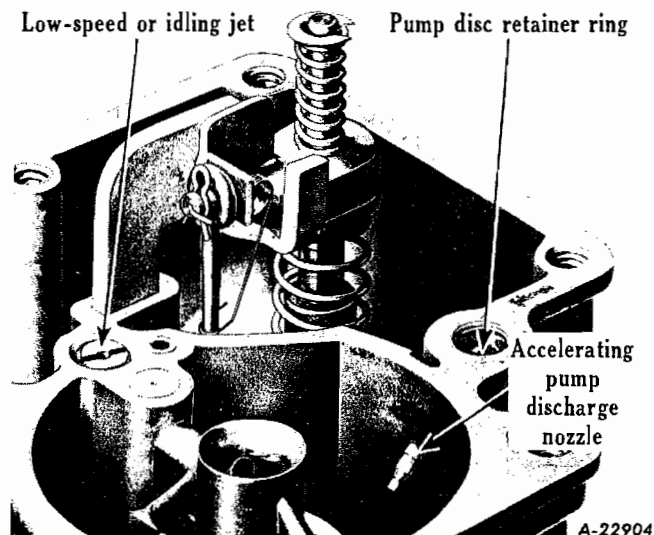

Fig. 2
A chamber above the top of the diaphragm supplies fuel for the accelerating pump circuit. The diaphragm acts as a pump and the quantity of fuel discharged by the pump is controlled by the size of the pump jet or nozzle calibration (Fig. 2) and also the size of the fuel inlet hole to the chamber. There is no check valve on the inlet. There is a check valve in the outlet channel near the pump jet to allow fuel to pass in an outward direction only and also to prevent air from being sucked back into the chamber under certain conditions. The pump jet is free to flow at all times generally starting at a part-throttle engine speed of 1500 r.p.m. and continuing throughout wide-open-throttle.
4. Remove pump disc retainer ring (using knife tip), retainer, and pump check disc (Fig. 2).
11. Remove low-speed (idle) jet assembly. Do not remove pressed in parts such as nozzle, pump jet or anti-percolator air bleed. (Fig. 2).